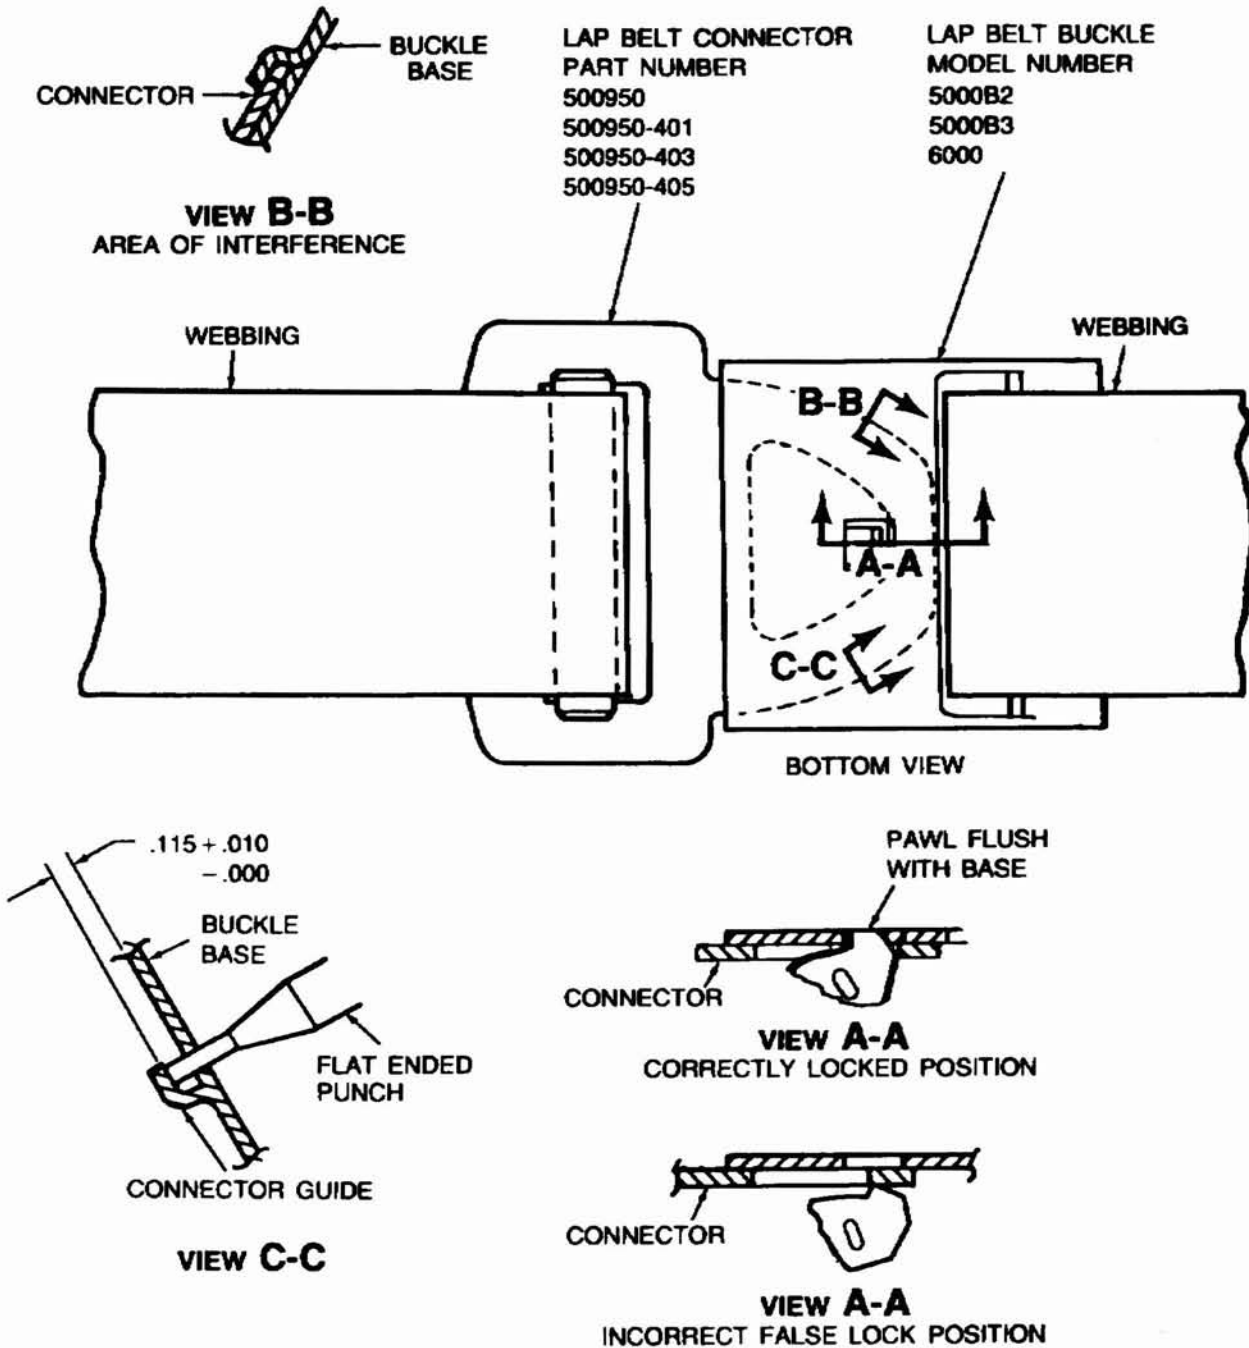

Figure 1
1. Inspect all lap belts in the airplane to determine if the buckles and connectors were manufactured by American Safety Equipment Corporation and have one of the part/model numbers shown in Figure 1. American Safety Equipment Corporation buckles have the words "American Safety" and the model number stamped on the back of the buckle.
2. If the lap belt buckles were not manufactured by American Safety Equipment Corporation and do not have one of the model numbers shown in Figure 1, no further action is necessary.
3. If the lap belt buckles were manufactured by American Safety Equipment Corporation and have one of the model numbers shown in Figure 1, proceed as follows:
- b. Inspect the connector guides on the buckle and determine if the clearance between the guide and the buckle base is $.115 + .010 - .000$ inch as shown in Figure 1, View C-C.
- d. If the connector guides on the buckle do not have the correct clearance, use a flat punch as shown in Figure 1, View C-C and rework the guides as required to obtain the proper clearance.
- e. Check the lap belt assembly for proper operation as shown in Figure 1, View A-A.